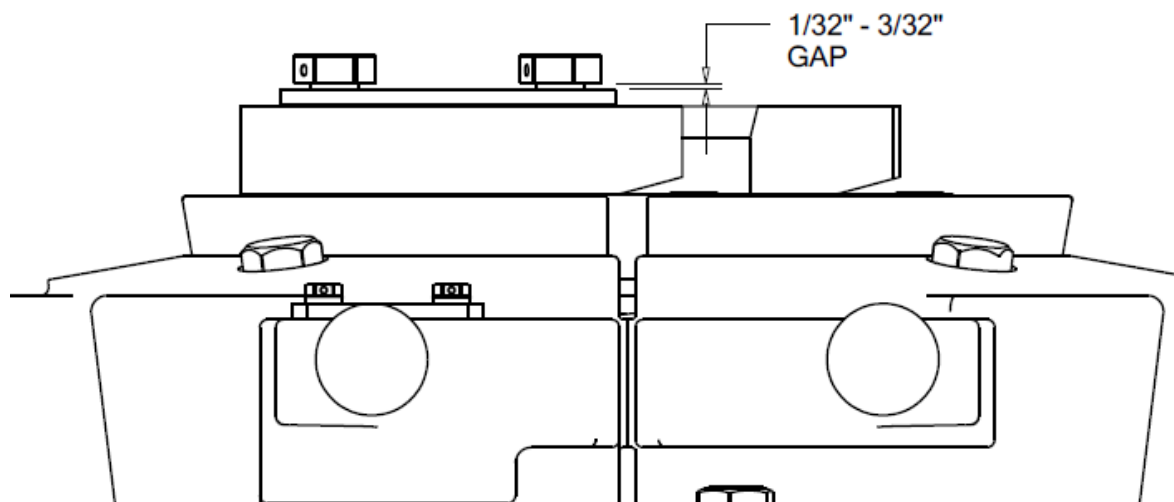

Figure 2
- ▶ Make sure the proper size of inserts are loaded into the slip segments, followed by the insert spacers, and then place an insert retainer plate into each slip. **(See figure 2)**
- ▶ Tighten all insert retainer screws. Then tighten the setting plate bolts to a maximum torque value of **20 ft-lb.** ensuring there is a **1/32" to 3/32" gap** between the underside of the bolt head and the washer or setting plate retainer. (See Figure 2)